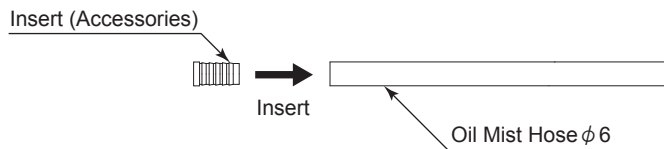

Fig. 15
(1) Press the insert (Accessories) into the Oil Mist Hose ( $\phi 6$  : not included / prepared by the end-user) (Fig. 15).